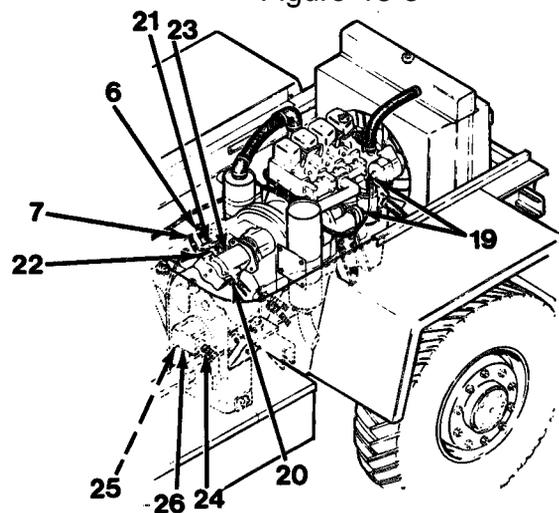

Figure 18-2
8. Connect hoses (24) and (25) to ground driven steering pump (26) and hoses (20), (21) and (22) to main hydraulic pump (23, Figure 18-2) (refer to pages 13-45 and 13-38).